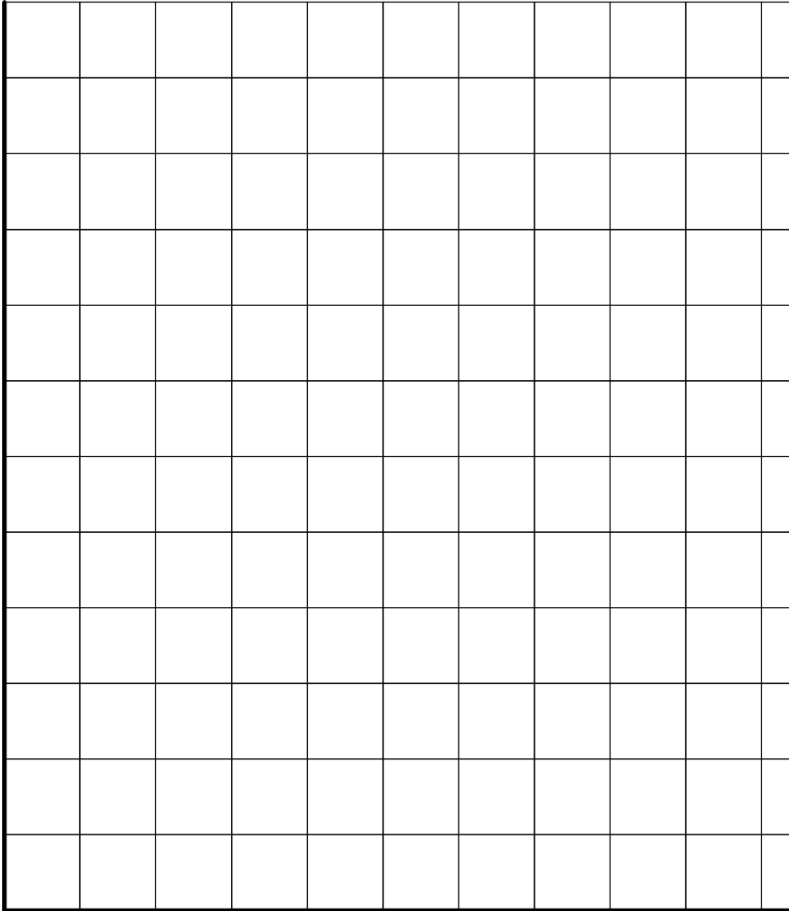

Fig. 4.1.2.4 Potentiometer characteristic
- Plot the values from the table in the chart (Fig. 4.1.2.4) and draw the characteristics $U_1 = f(\text{scale value})$ and $U_2 = f(\text{scale value})$.